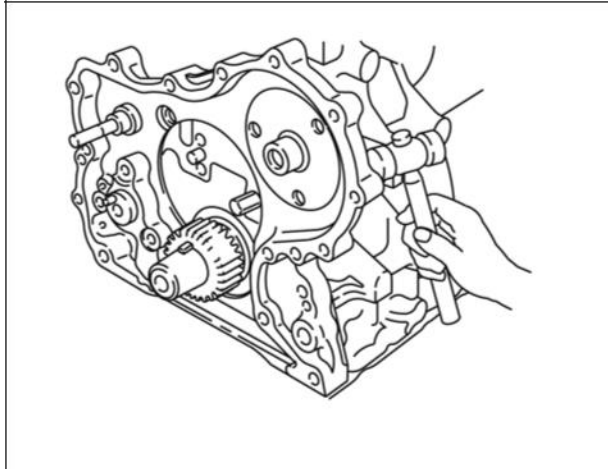

Figure 10
4. Remove oil pump rotor (Figure 10) from cylinder block.